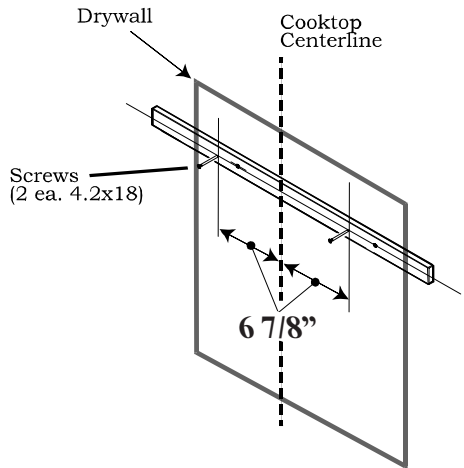

Figure 7
7. Use 2-4 (6mm x 80 mm) screws to attach the bracket to the wall as shown in Figure 7. For support of longer hoods, use
8. On the wood bracket mark the locations used to hang the hood according to Figure 7.